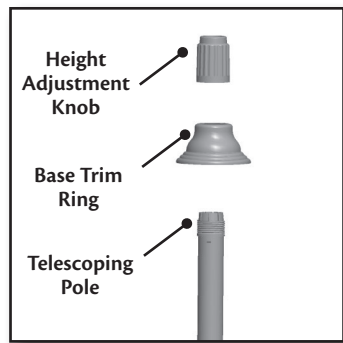

Figure 6
1. Remove the height adjustment knob from telescoping pole by turning it counter clockwise. Also remove the cord clamp. Slide the base trim ring onto the pole. Reinstall the height adjustment knob and cord clamp. Figure 6.